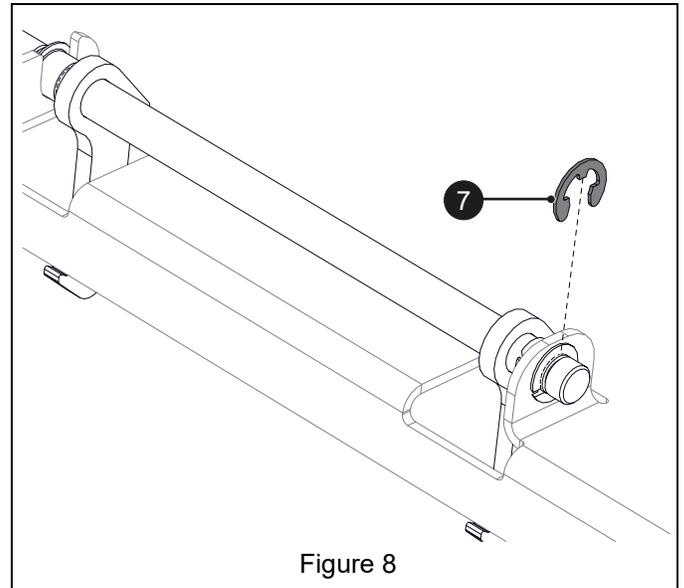

Figure 8
5. Install one retaining ring (item 7) on seat latch end away from handle. See Figure 8.